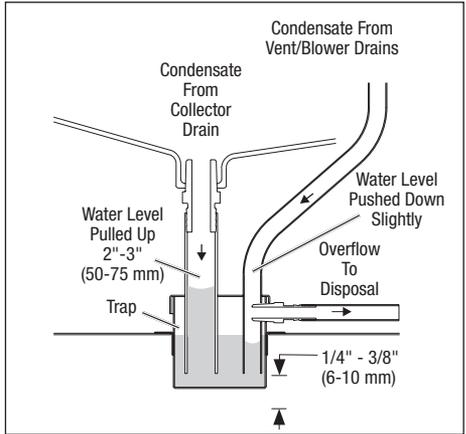

Figure 12. Condensate drain and trap.
**IMPORTANT:** After placing the limestone neutralizer in the tray add water until the water level is at the same height as the overflow, see figure 12. Place the cover on the tray when this is done.
Incorrect installation of the condensate assembly or tubing can result in overflow or waterlogging of the vent. In normal operation, water accumulates in the tray at the level of the outlet fitting, and this provides a "water seal" which accommodates combustion system pressures. Figure 12 illustrates the water seal. Note that water is "pulled" up toward the condensate collector pan and is pushed down slightly by the vent/blower drain. If there is no water seal, air rushes into the collector drain, preventing normal drainage of condensate water, until vent drainage provides the seal. See Section 2.12, Start-Up and Adjustment.